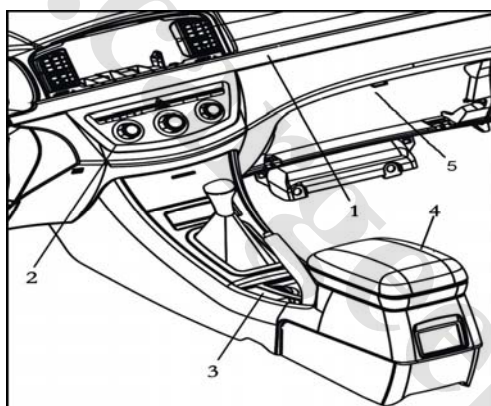

Fig. 2-74
1) Remove the trim strip of the instrument cluster and air conditioning control panel as shown in Fig. 2-74.